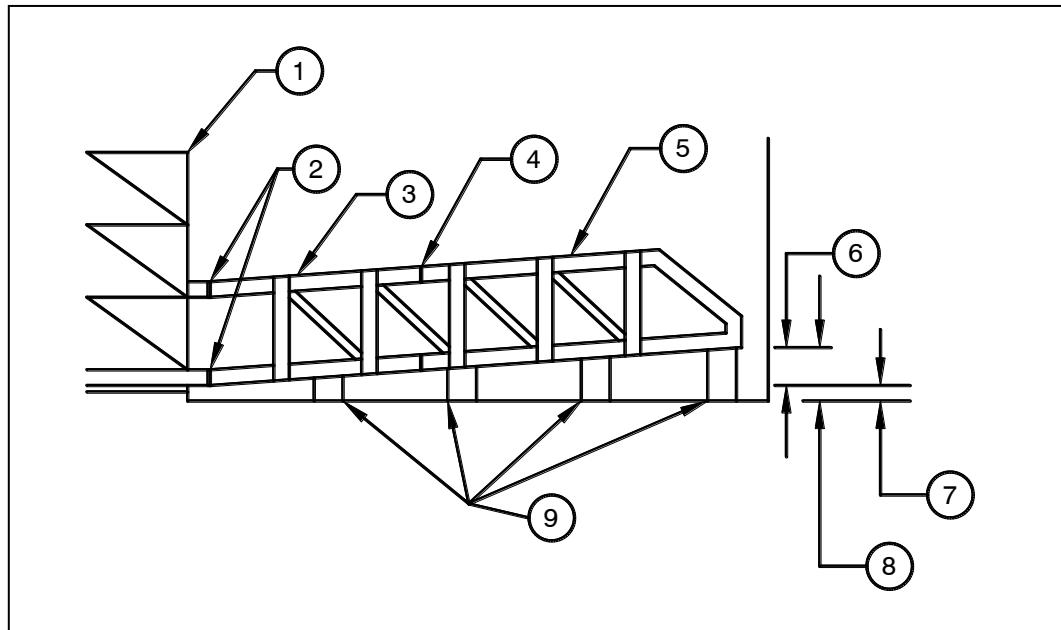

Figure 2.10a
- a. Set the inner arm sections (3) in position at the cage, supported by blocking (9) for the clearance with the tank bottom specified plus the amount of camber (6) specified. Refer to the Figure 2.10a. Adjust the inner arm sections so that they are square with the cage and with the arm connections adjacent to their matching holes at the cage.